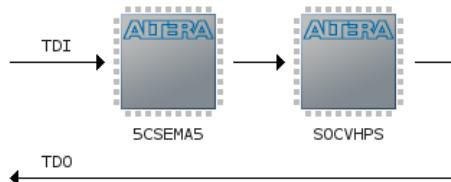

Figure 9-21. JTAG Scan Chain
You should now see 2 devices on the JTAG scan chain, as shown in Figure 9-21.
45. Right-click on the “5CSEMA5” device shown in Figure 9-21 and choose “Edit > Change File”. Then, select “DE1_SoC_demo/hw/quartus/output_files/DE1_SoC_demo.sof” through the file browser.